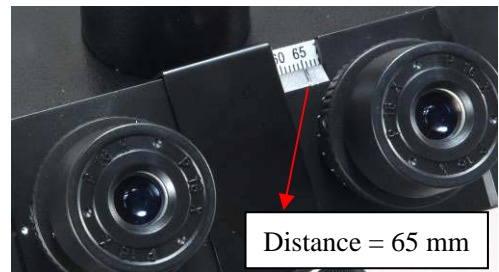

Figure 8
- 2) Rotate the diopter ring on the right eyepiece tube until its numerical value is the same as your interpupillary distance, for example, 65 in Figure 8.
- 4) Close your right eye and bring the same specimen into clear sharp focus by adjusting the diopter ring (12) on left eyepiece tube (13) only. Don't use focus knobs at this step.